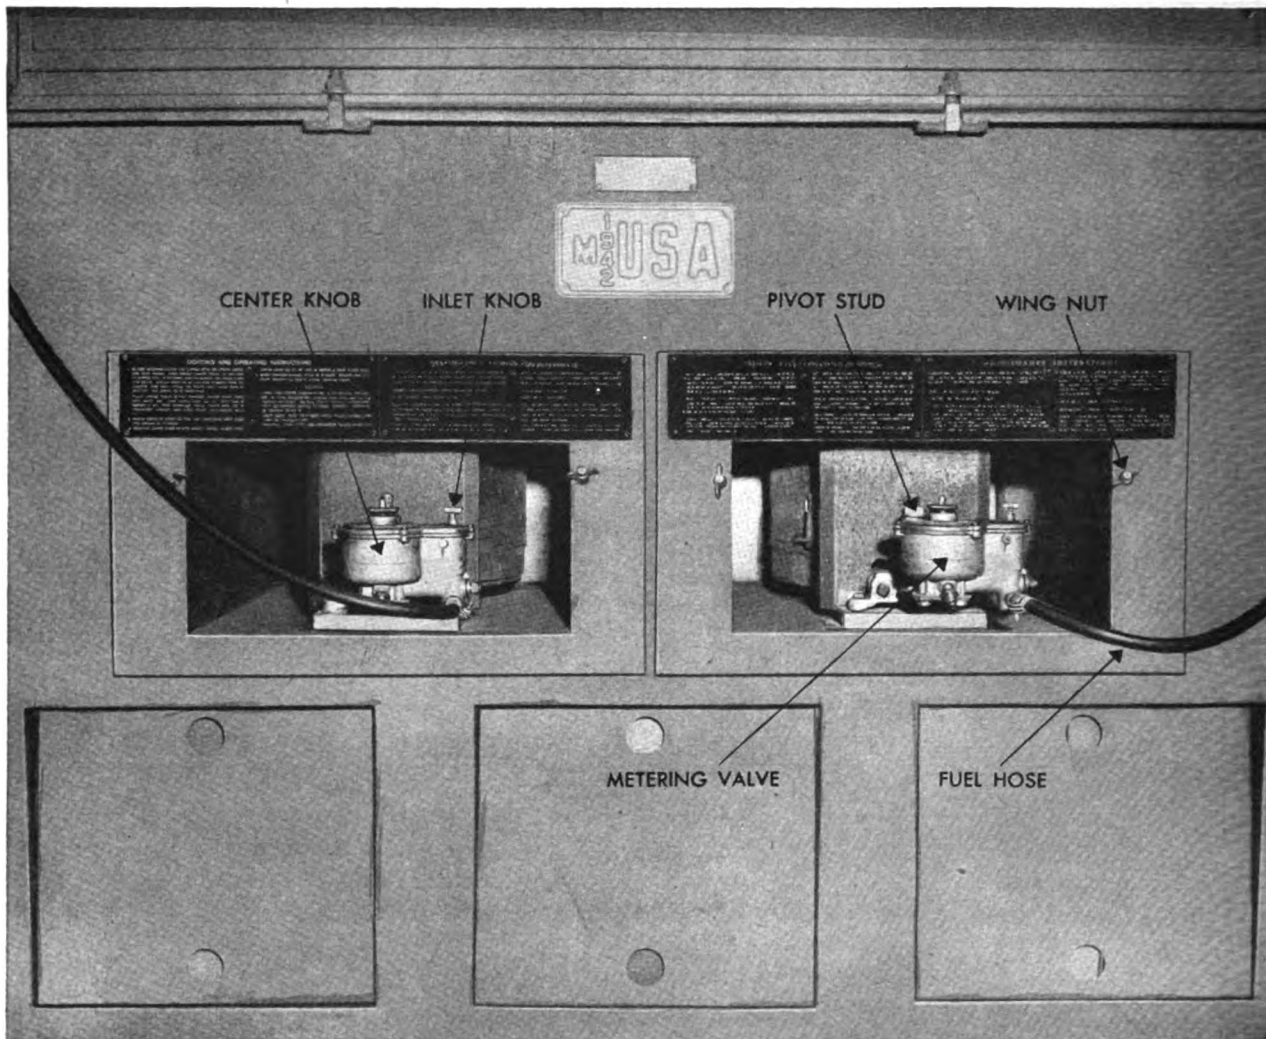

Figure 66. Burners, pot type (65-A-4910), installed in oven, bake, field, M1942.
(6) These improvised burner chambers should be dug only in clay or in firm soil.
55. Firing with Outfit, Burner, Pot Type, Oven, Bake, Field, M1942 (see figs. 66, 67, and 68)